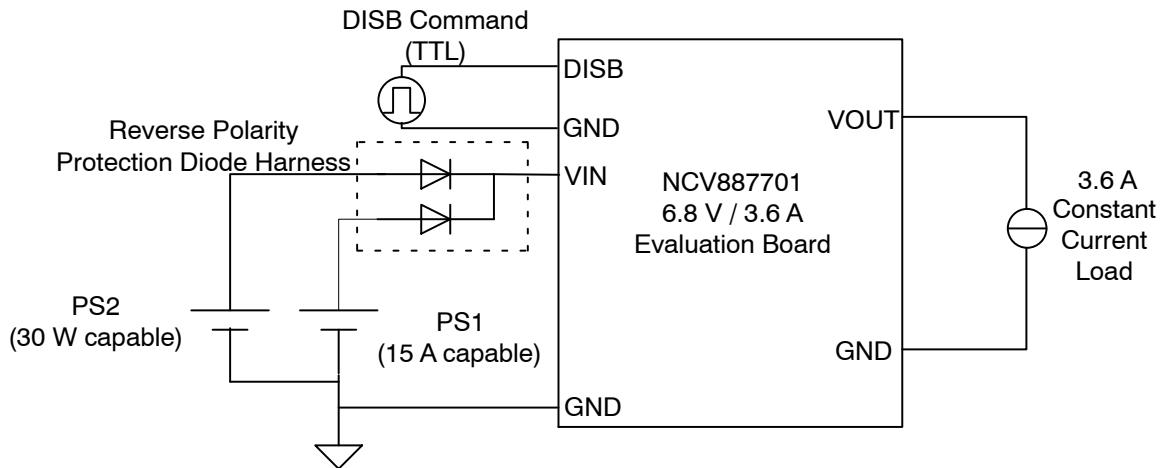

Figure 2. Evaluation Board Connections
The evaluation board is rated to operate under full load for input voltage as low as 2.6 V at the input terminal under full power (less if output current is reduced). Start-Stop applications use reverse battery protection diodes in front of the boost converter (Figure 2), so the input source can operate down to 2.6 V plus a diode drop (i.e. ~3 V).
1. Connect both DC1 and DC2 input power supplies as illustrated in Figure 2. Adjust DC2 so that PCB VIN = 2.6 V for a 3.6 A load.